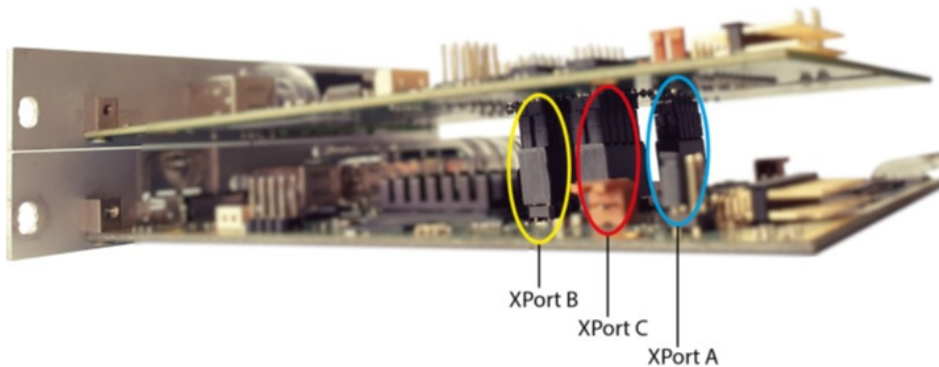

Figure 62. Option Card Connected to a Main Video Card Through XPort Adapters
2. Plug the required adapters on the XPorts to be used as laid out in Table 12 above. Figure 62 above displays the Main Video Card and Option Card connected through the XPort adapters.